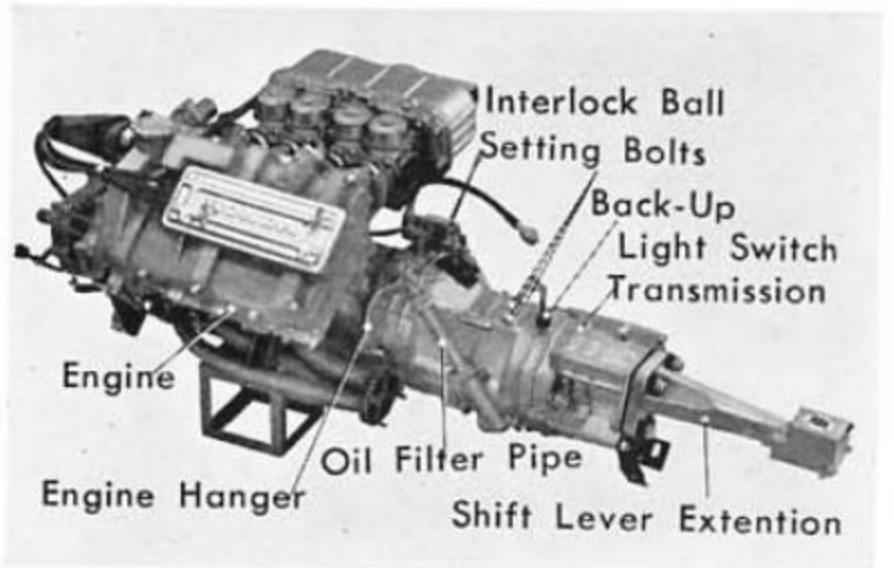

Fig. 6A-2
3. Separate the transmission from the engine by removing the attaching nuts (Fig. 6A-3). No washer is used at the engine hanger.